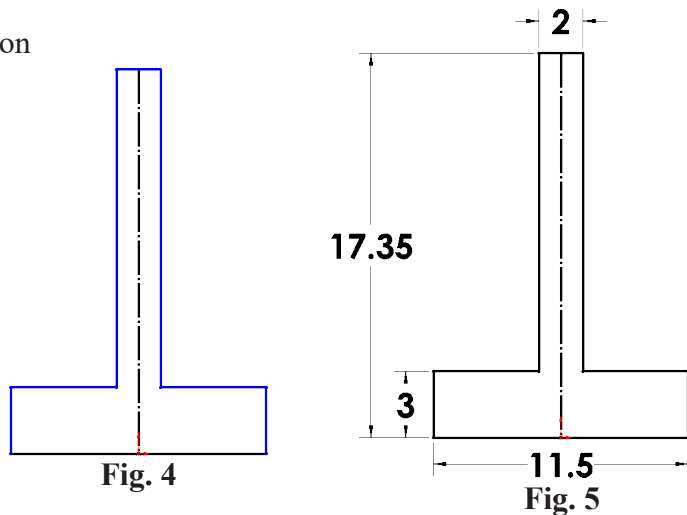

**Fig. 3**
Step 5. **Drag selection** around the sketch to select all lines, **Fig. 3**. To drag selection, click above and to left of sketch and drag down and to right to drag around all.